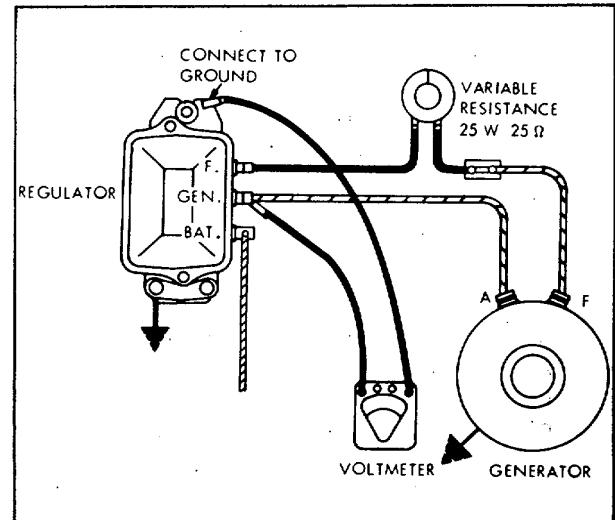

Figure 5-7. Cutout Relay Test Setup
- Disconnect lead at regulator F terminal and connect 0.25 ohm 25 watt variable resistor in series with F terminal and lead (Fig. 5-7).